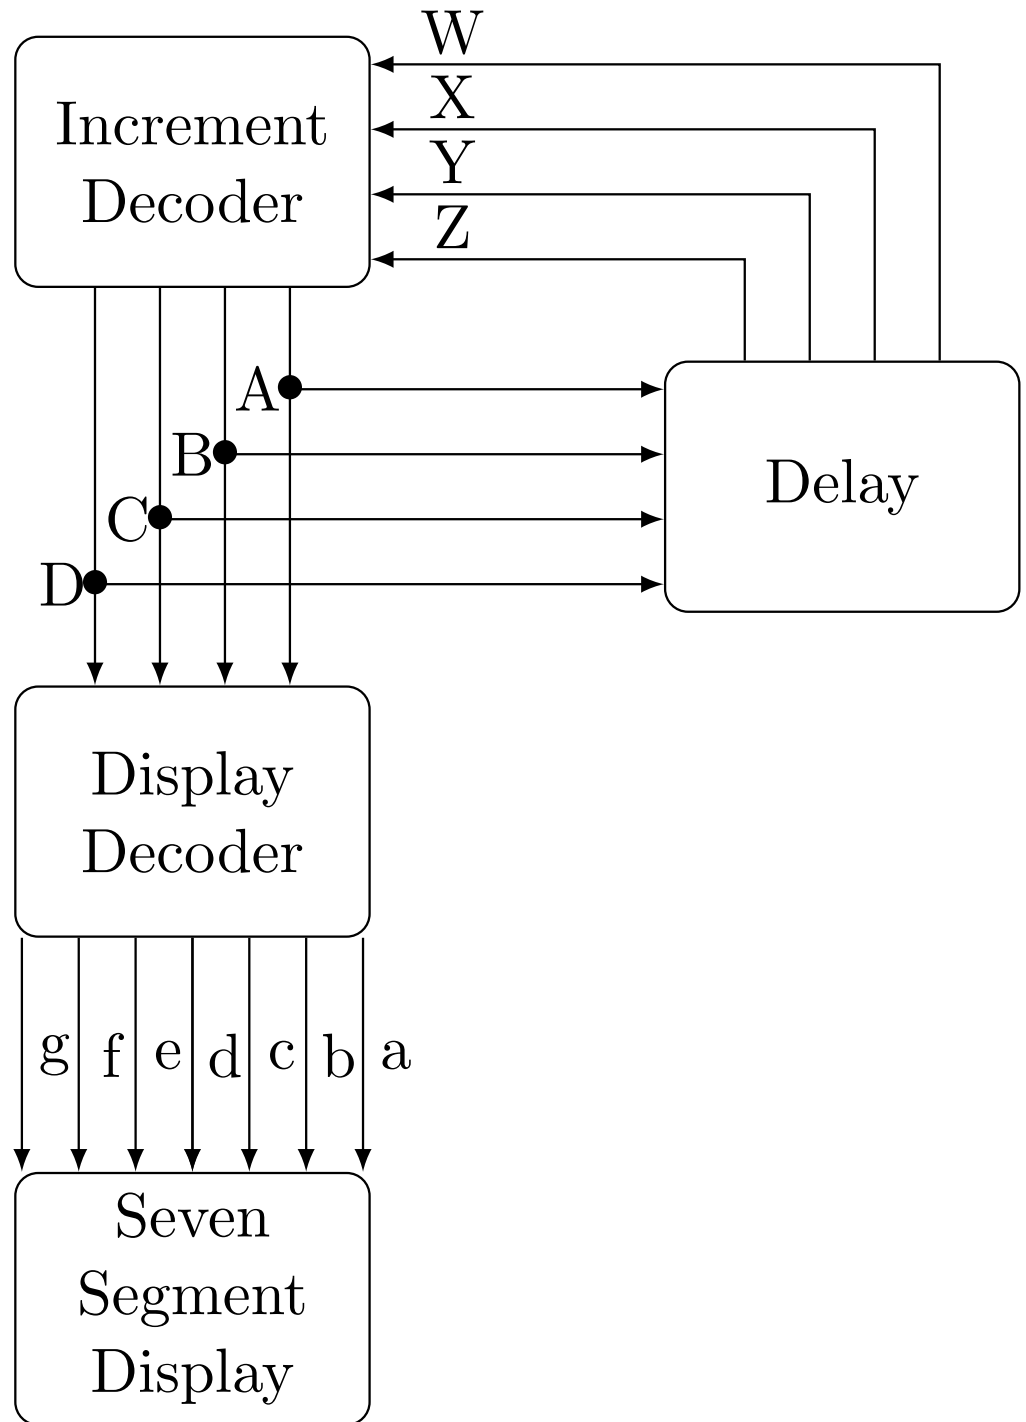

Figure 11.3.3.1.1: Block diagram of a decade counter.
11.3.3.1. Use the Vaman to implement all the decoders in Fig. 11.3.3.1.1. Implement the delay using a flip flop. This is an example of an FSM which is implemented using a sequential circuit.